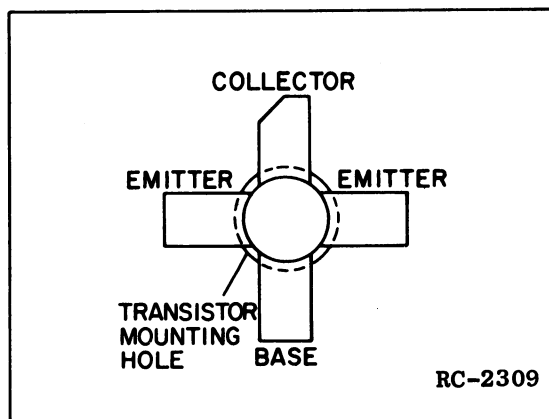
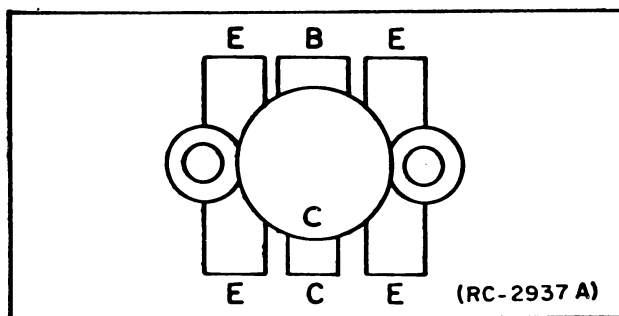

Figure 2 - Lead Identification
Figure 4 - Lead Identification for Q203 and Q204
1. Trim the new transistor leads (if required) to the lead length of the removed transistor. Cut the collector lead of Q202 at a 45° angle for future identification (see Figure 2). The letter "C" on the top of each transistor also indicates the collector. Refer to Figure 4 for lead identification of Q203 and Q204.